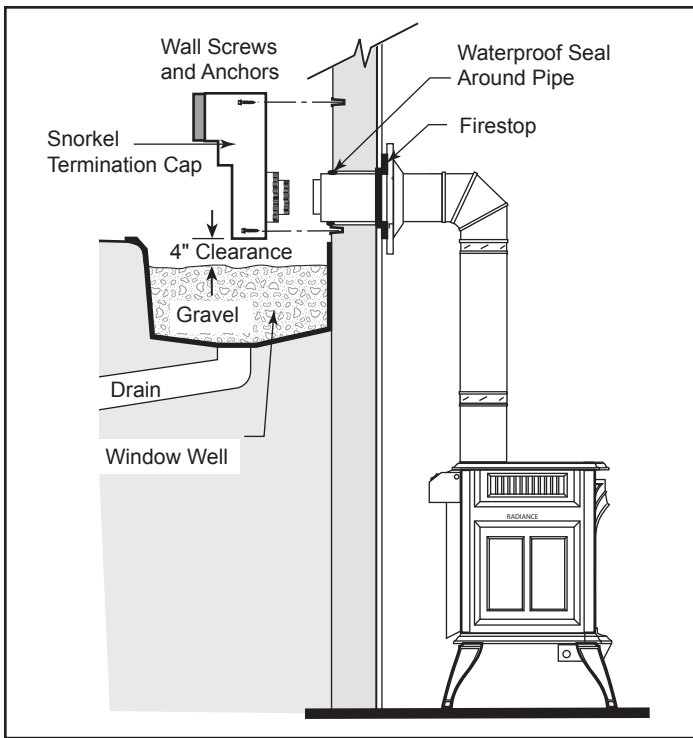

Figure 3.22 - Snorkel kit installation.
- Remove soil to a depth of approximately 16" (406 mm) below the base of the snorkel. Install a window well (not supplied). Refill the hole with 12" (305 mm) of coarse gravel and maintain a clearance of at least 4" (102 mm) below the snorkel. (Figure 3.22)
- If the foundation is recessed, use extension brackets (not supplied) to fasten the lower portion of the snorkel. Fasten the brackets to the wall first, and then fasten to the snorkel with self-tapping #8 x 1/2" sheet metal screws. Extend the vent pipes out as far as the protruding wall face. (Figure 3.22)